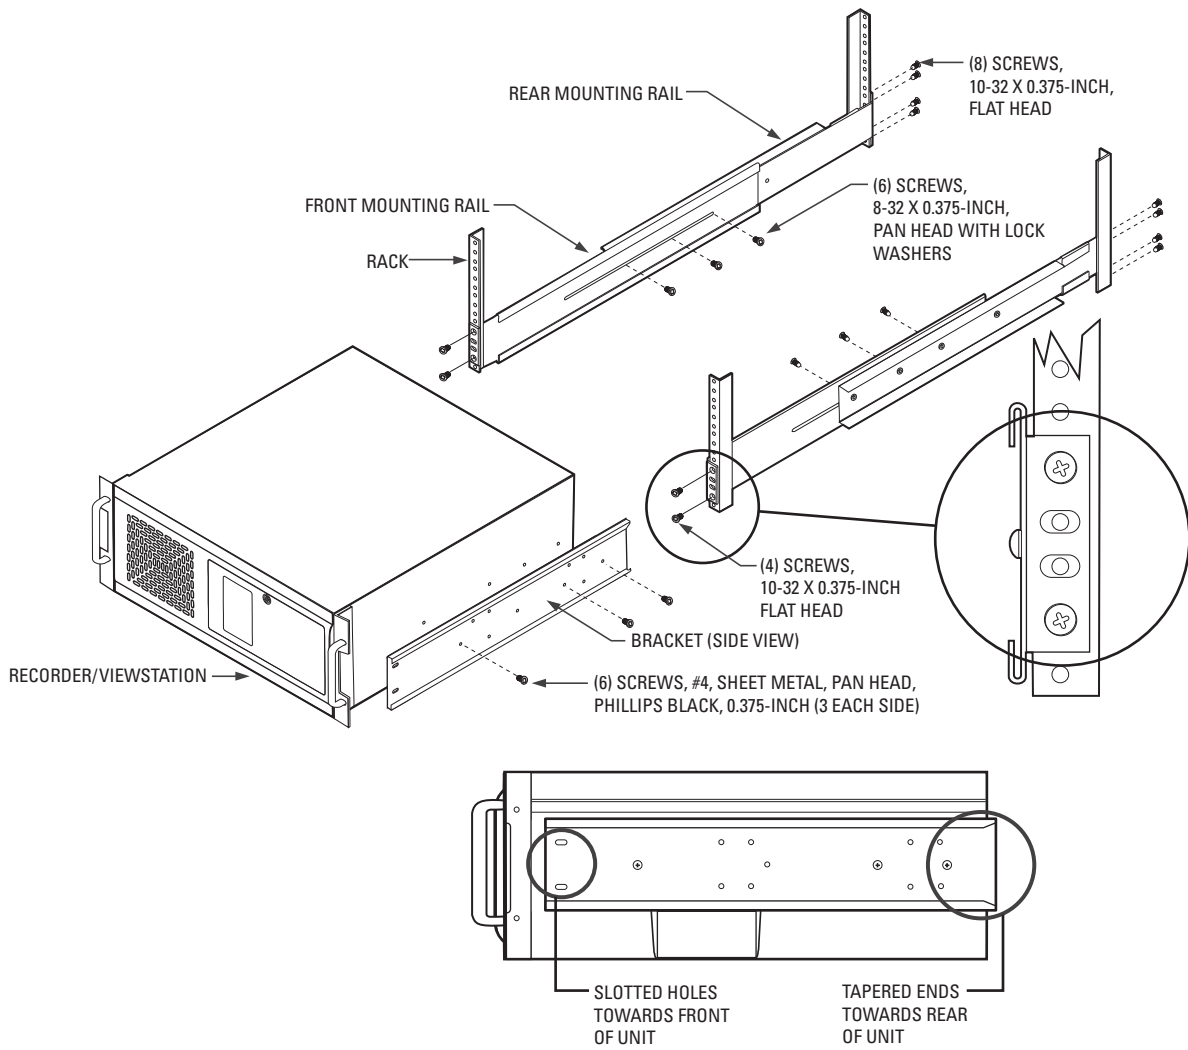

Figure 7. Rack Mount Installation
4. Using the remaining six #4 sheet metal Phillips 0.375-inch pan head screws, attach the two chassis brackets to the left and right sides of the unit. Refer to Figure 7.